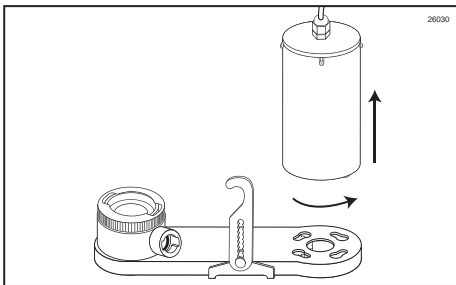

Figure 26
1. Rotate the Drive Motor to unlock and remove the Drive Motor from the Drive Assembly Gear Box. (See Figure 26.)